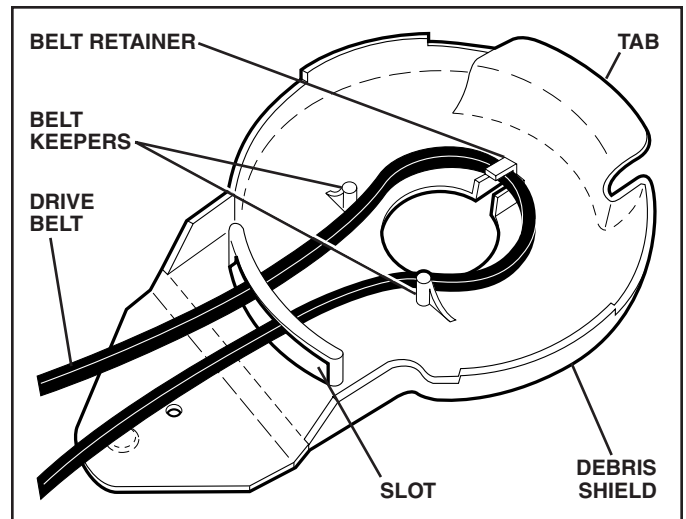

FIG. 21
1. Place new drive belt in the belt retainer of the debris shield. Be sure to route belt between belt keepers and through slot (See Fig. 21).